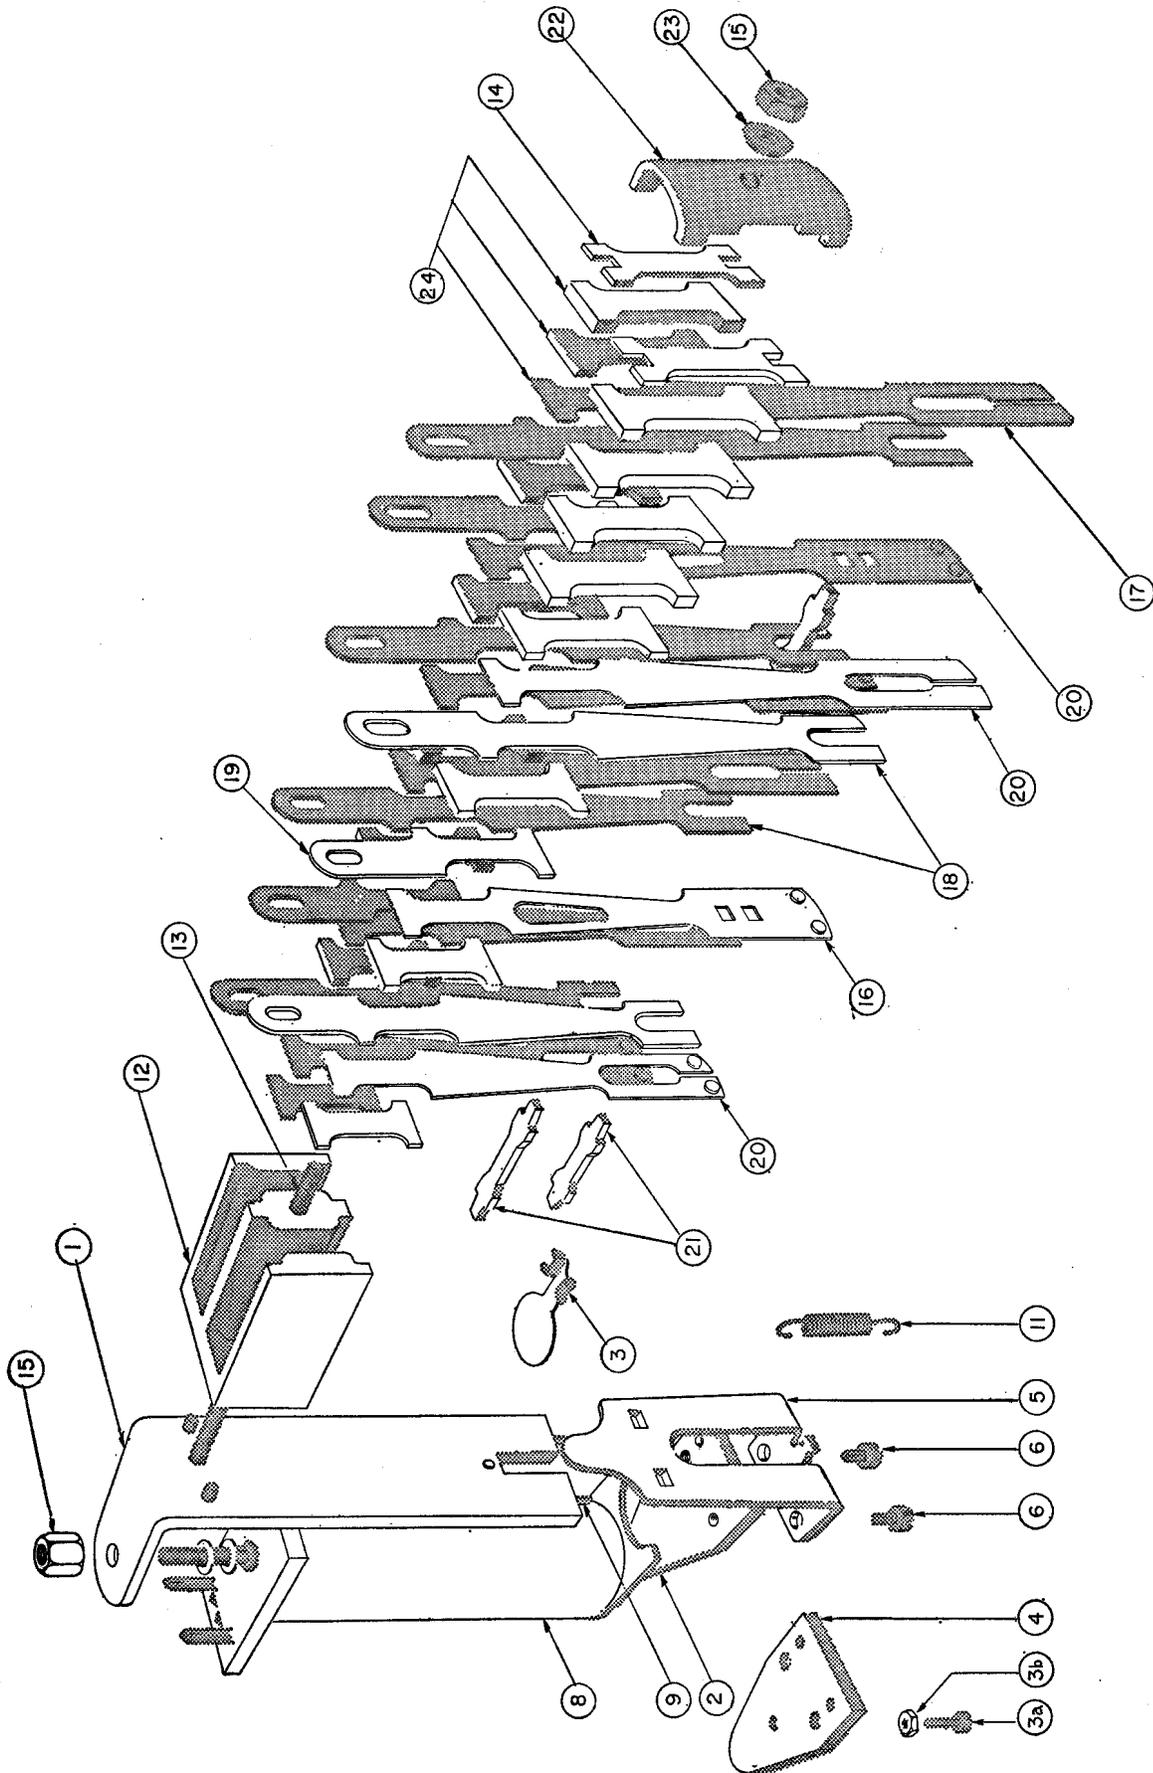

FIG. 1
2.01 Figs. 1 and 2 are drawings that show the various parts of the relay and switch respectively. Each part is labelled with a number that associates the part with a parts list.
2.02 Tables A and B are parts lists, for the relay and switch respectively, that show the number relative to Fig. 1 or 2, name of part, part number, and a view of each part.